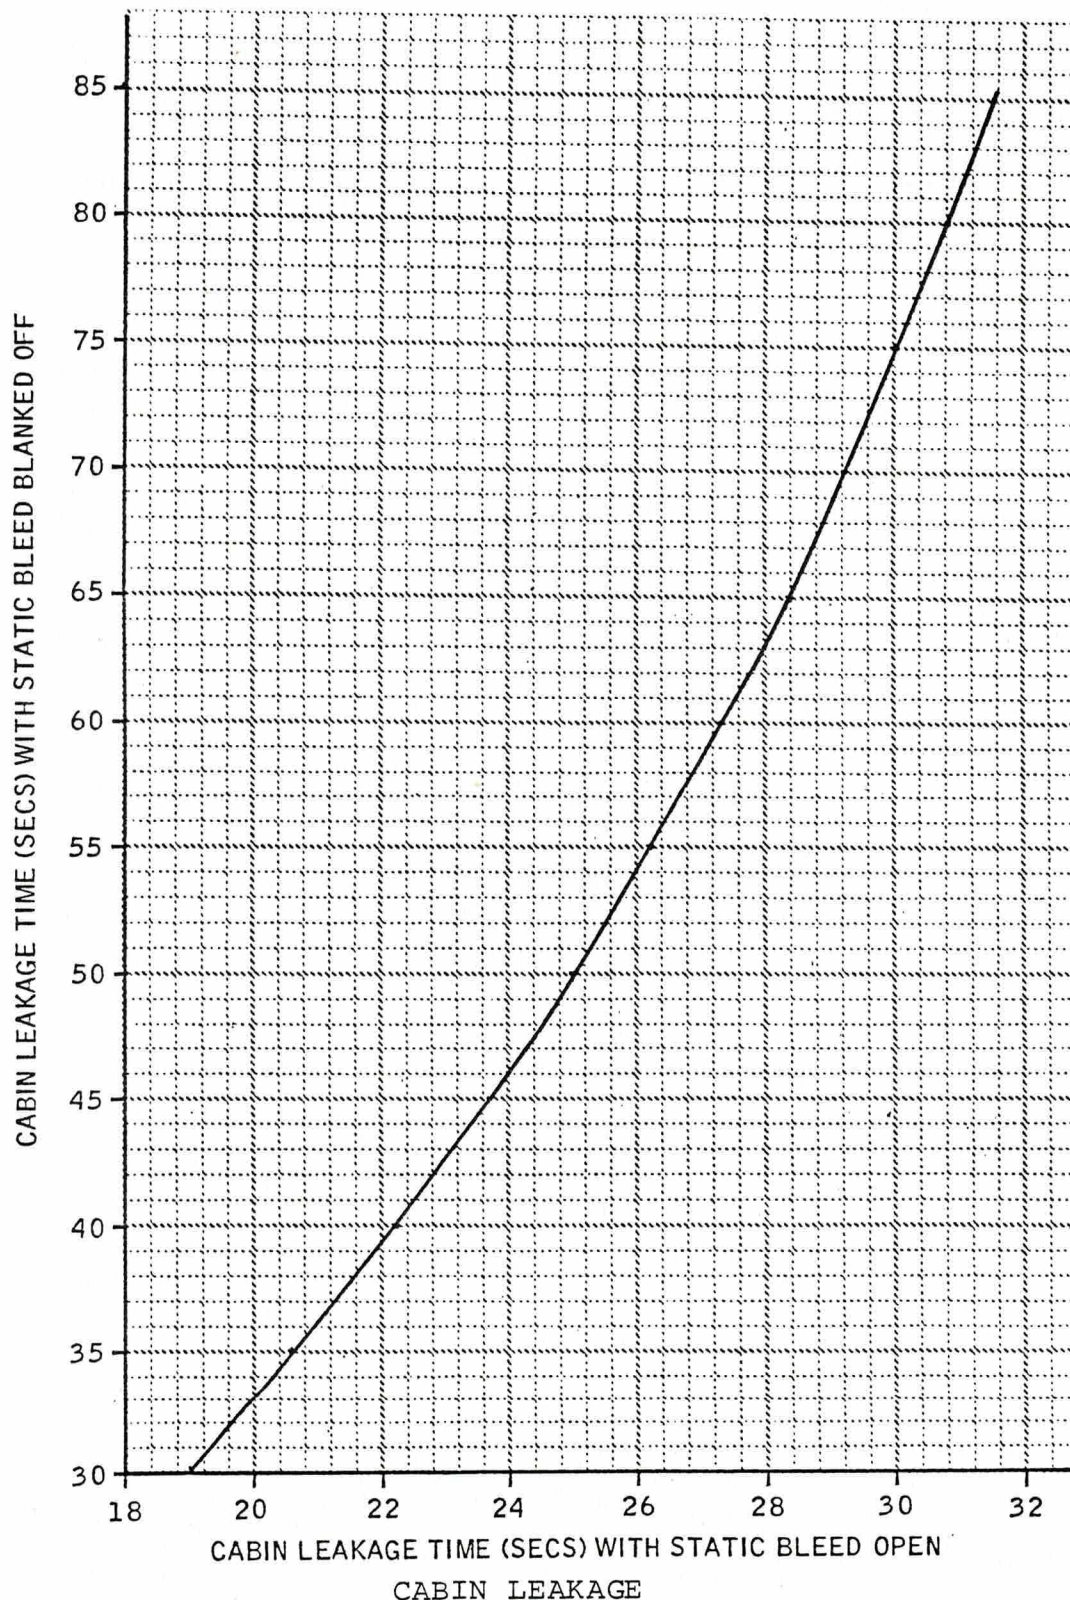

FIGURE 1
4.11 Comparator graph (See Fig.1).
- (i) Transfer reading obtained at Sub-item 4.5 to Y axis.
- (iv) Reading obtained at Sub-item 4.10 is to be more than that obtained at Sub-item 4.11 (iii) above.